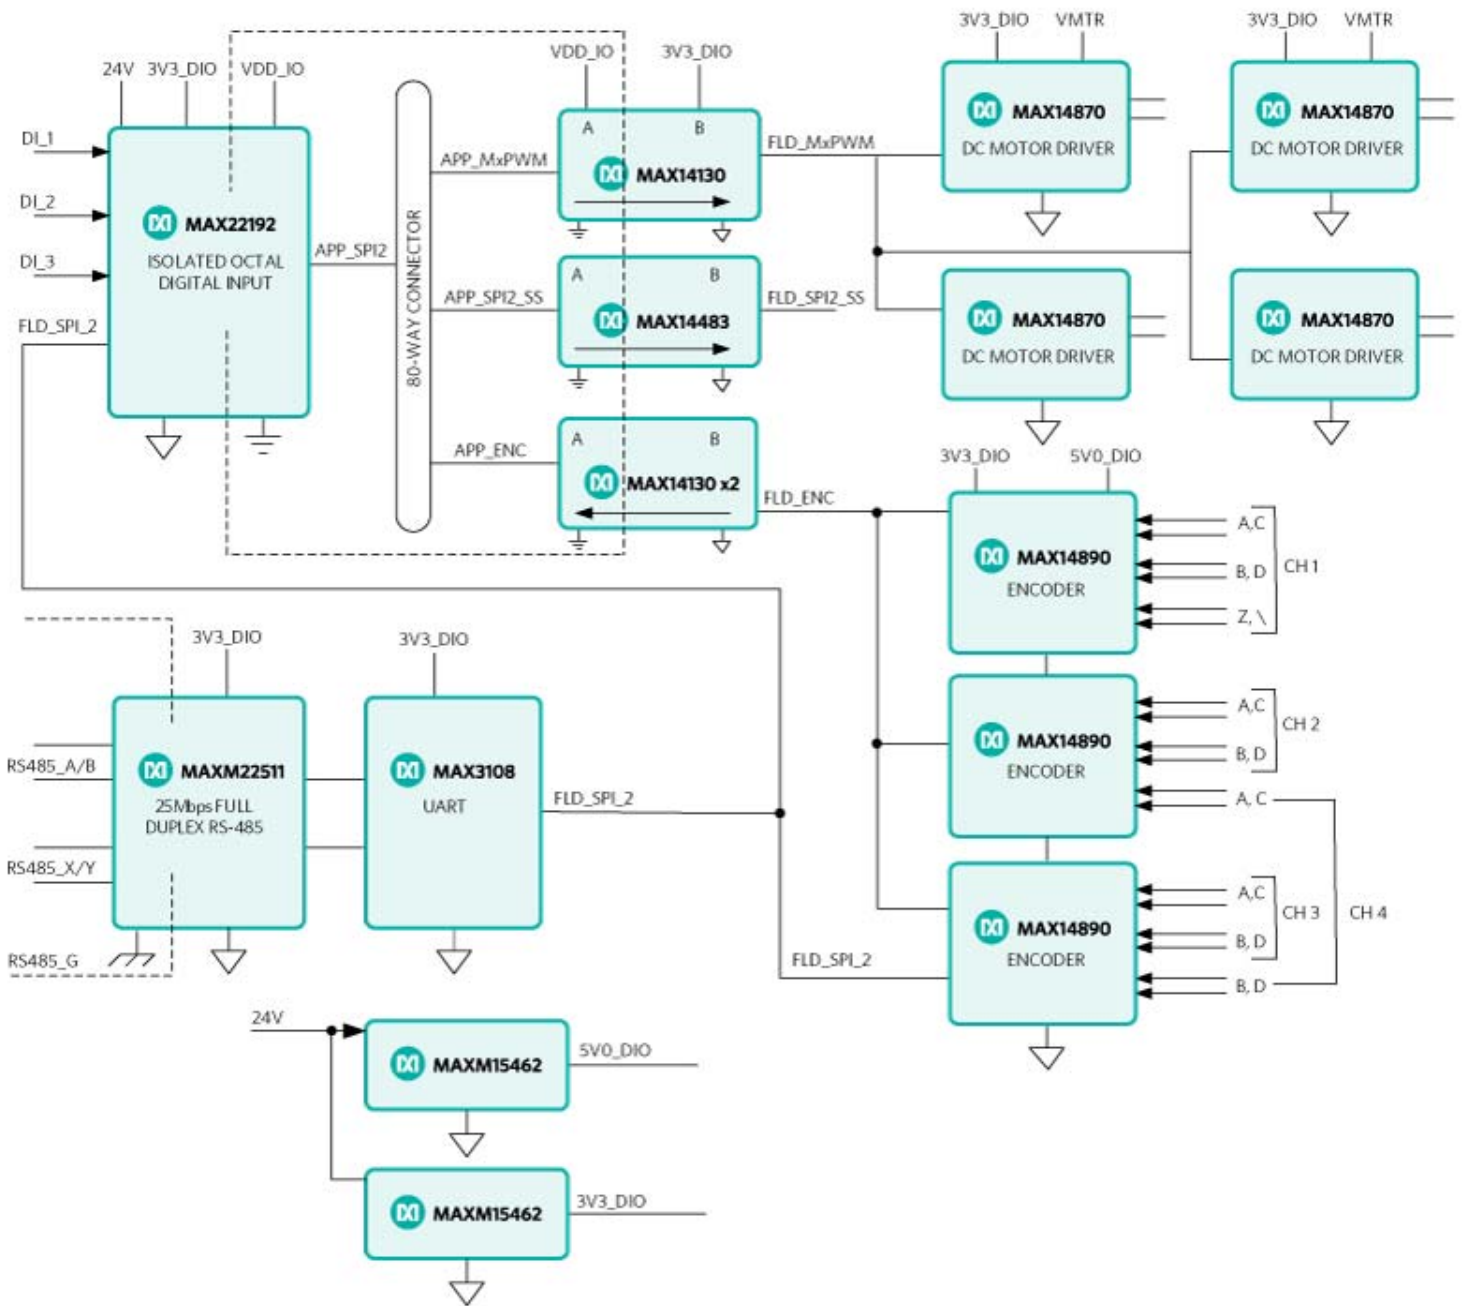

Figure 8. MAXREFDES201# block diagram.
**Figure 8** shows the system block diagram for the MAXREFDES201#.